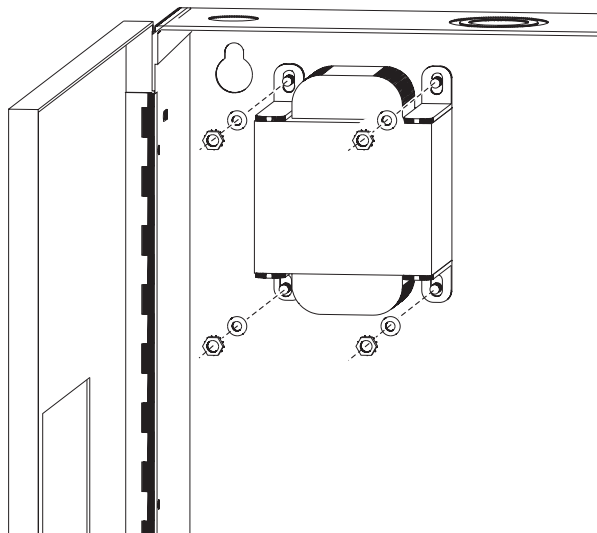

Figure 4
2. **Fasten the power transformer to the inside of the enclosure.** Mount the transformer on the four studs in the upper left-hand corner of the EN-SX enclosure, as shown in Figure 4, using the hardware provided.